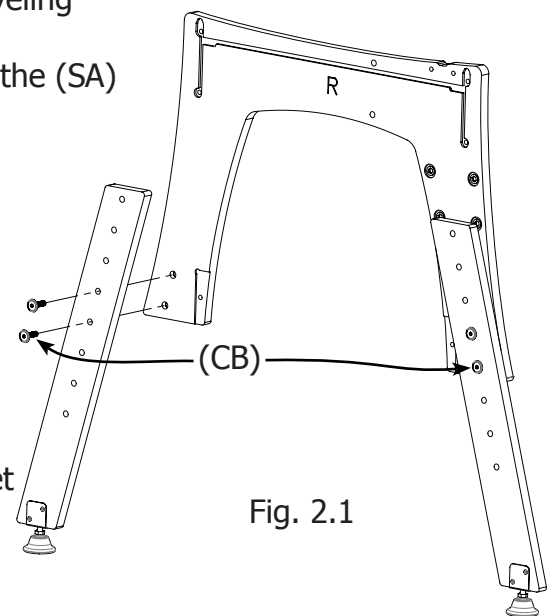

Fig. 2.1
**Step 2.1:** Secure Angled Height Adjustable Legs to the lower backside of each frame end using (CB) M8 x 30mm Connector Bolts as shown in Fig. 2.1